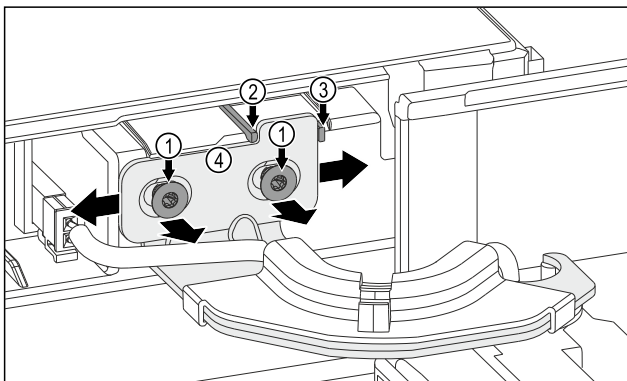

Fig. 12
- ▶ Loosen both screws Fig. 12 (1).
- ▶ To move the door to the right: Remove the locking knob Fig. 12 (3).
- ▶ To move the door to the left: Remove the locking knob Fig. 12 (2).
- ▶ The door has reached its end position: Tighten both screws Fig. 12 (1) tight.